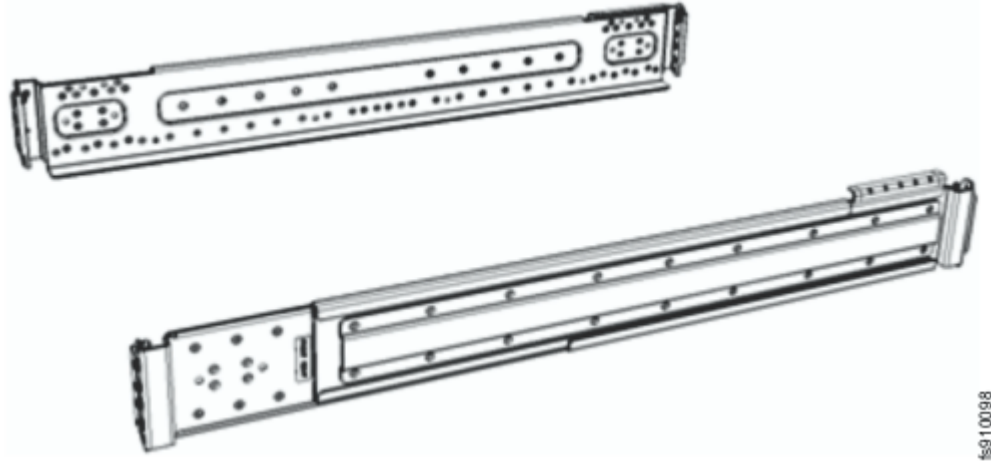

Figure 25. Control enclosure support rails
1. Locate the control enclosure rails, as shown in Figure 25 on page 67.